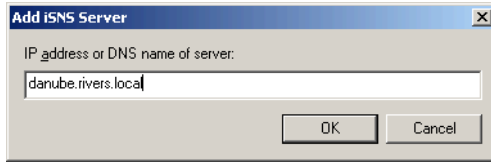

Figure 23-17 Add iSNS server
3. In Figure 23-17 on page 557, you can enter the IP address or the host name of the iSNS server you will use. Click **OK**.